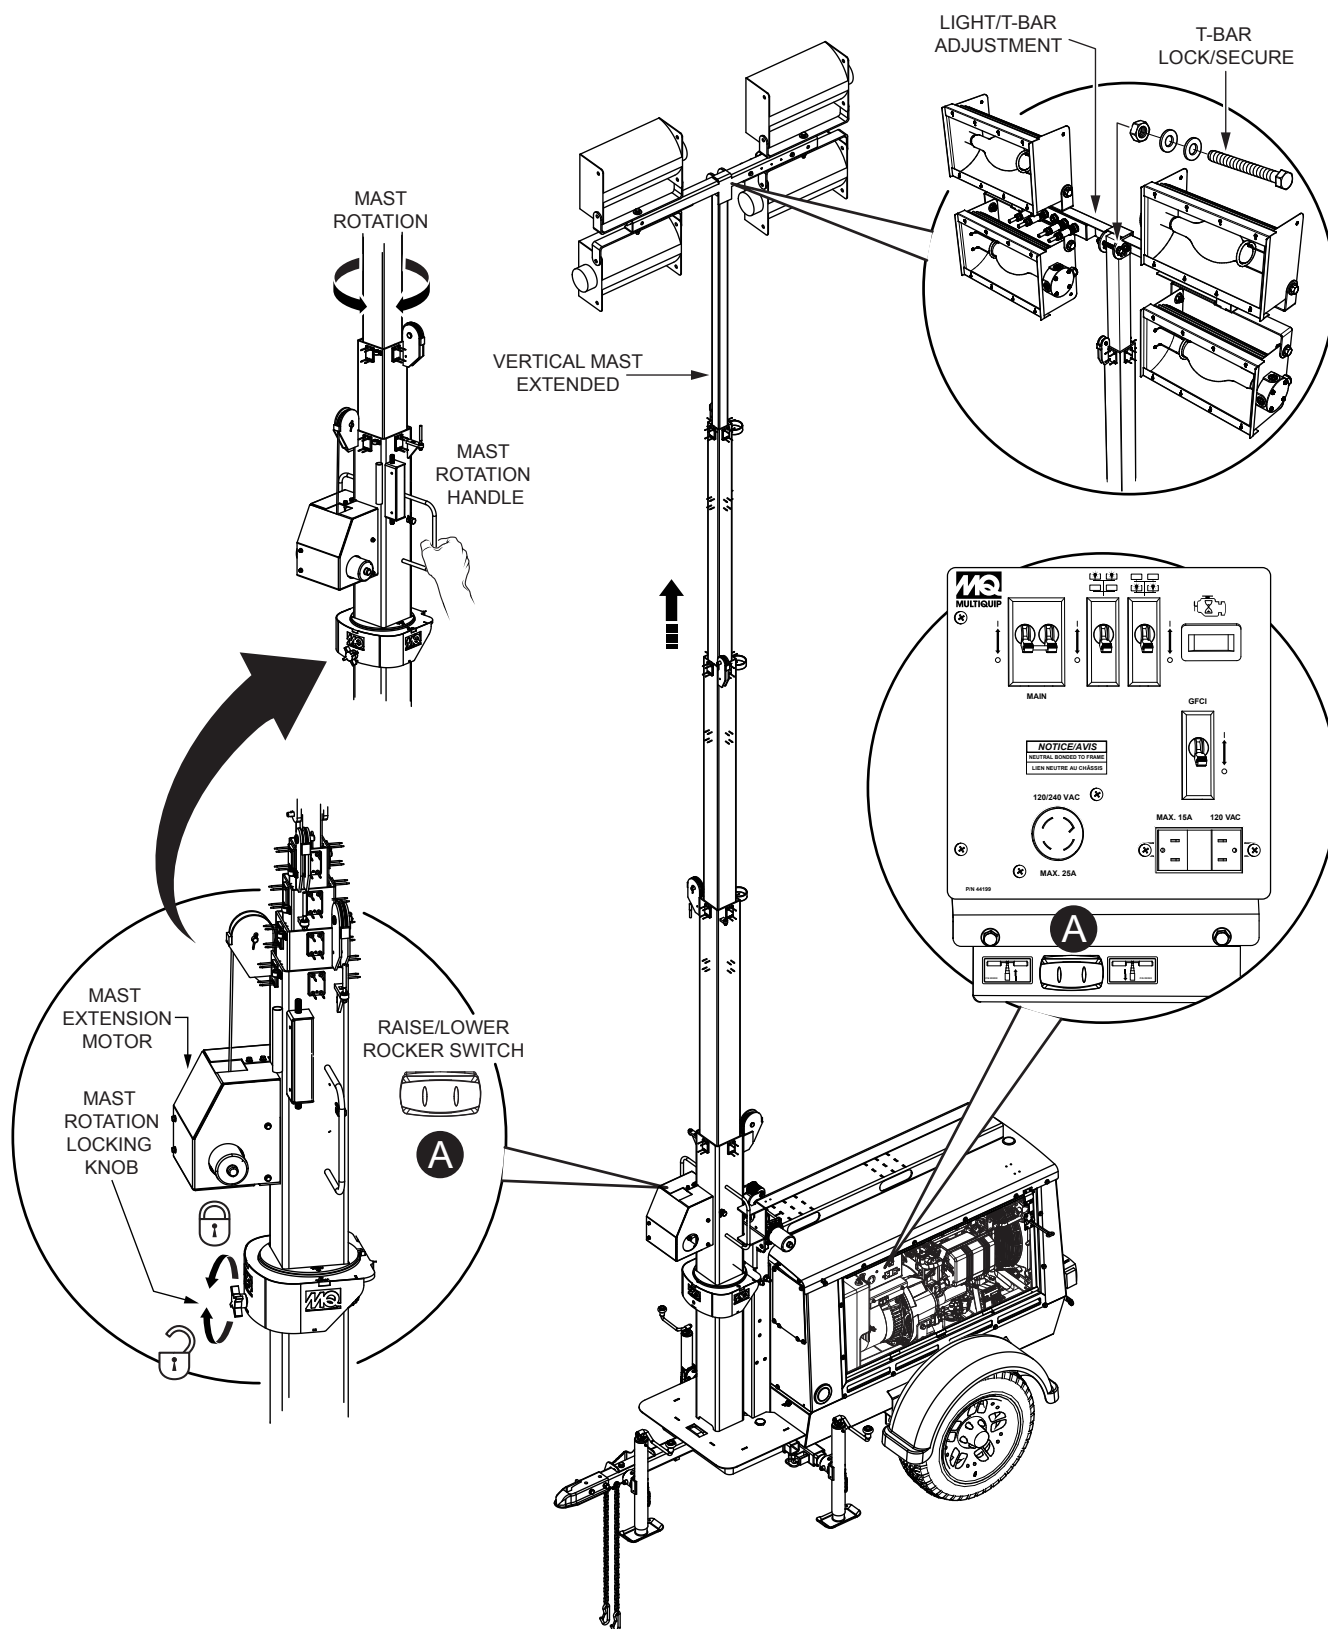

Figure 20. Raising The Mast
1. With the mast in the stowed position, remove the lower screw, washers, and nut (Figure 20) to allow the T-bar to rotate the lights for pitching.
1. With the mast in the stowed position (fully vertical), unscrew the mast rotation locking knob (Figure 20) to release the mast for rotation.
2. Grab hold of the mast rotation handles (Figure 20) and rotate the mast until the lights are facing in the desired direction.